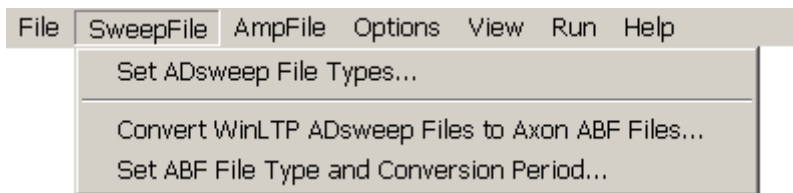

Fig. 3.2.2. SweepFile Menu.
- 2) **S**weep**F**ile Menu for loading, saving and printing individual ADSweep files (Fig. 3.2.2)